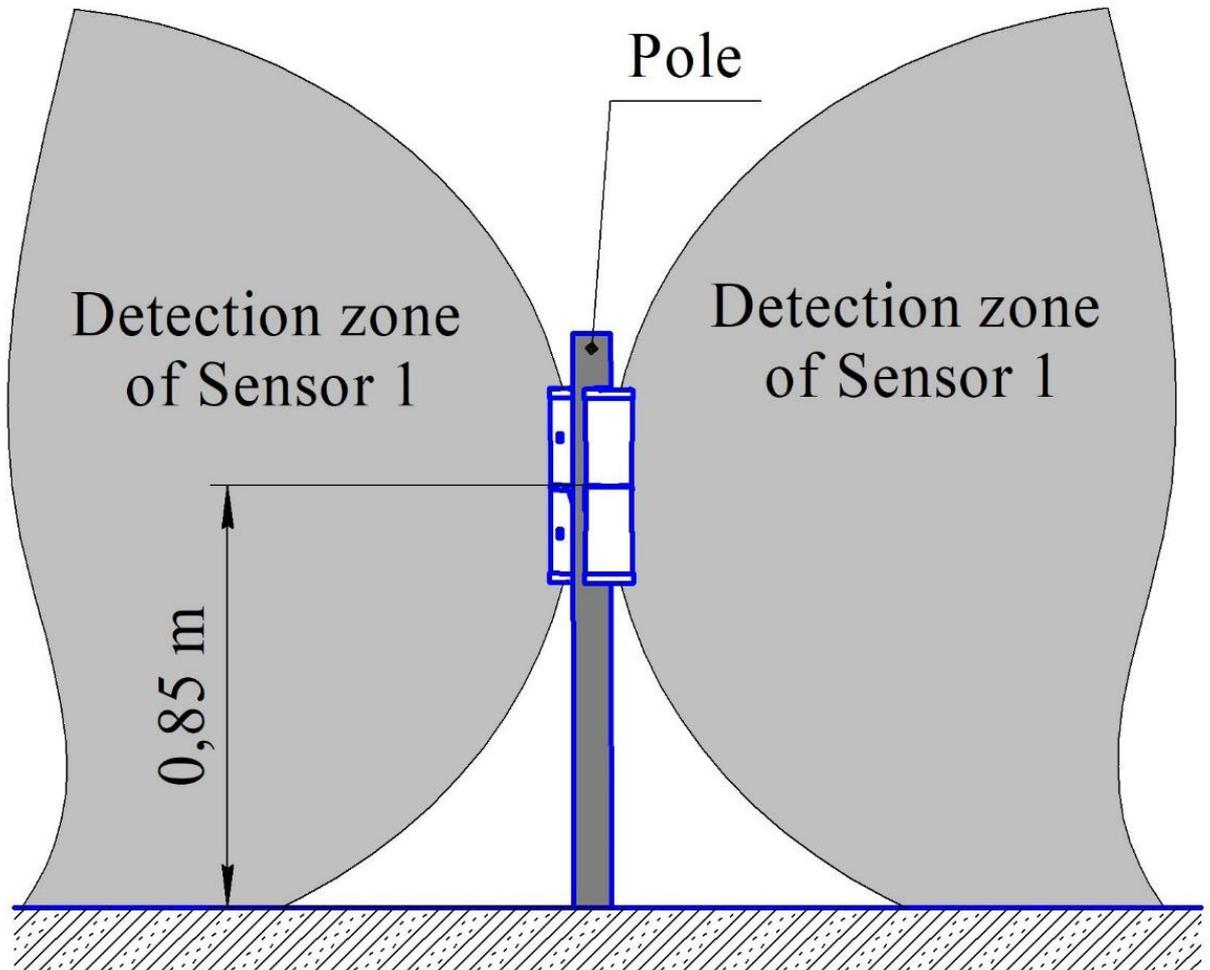

Figure 2.2 – Installation of Rx units (Tx units) of the sensors BARRIER-24.M300, BARRIER-24.M500 on one pole without overlapping the adjacent detection zones
2.3.2.2.2 For continuous long protection boundary with the sensors BARRIER-24.M300, BARRIER-24.M500 it is allowed to install two Tx units (Rx units) on one pole without overlapping the detection zones of adjacent sectors (see Figure 2.2).